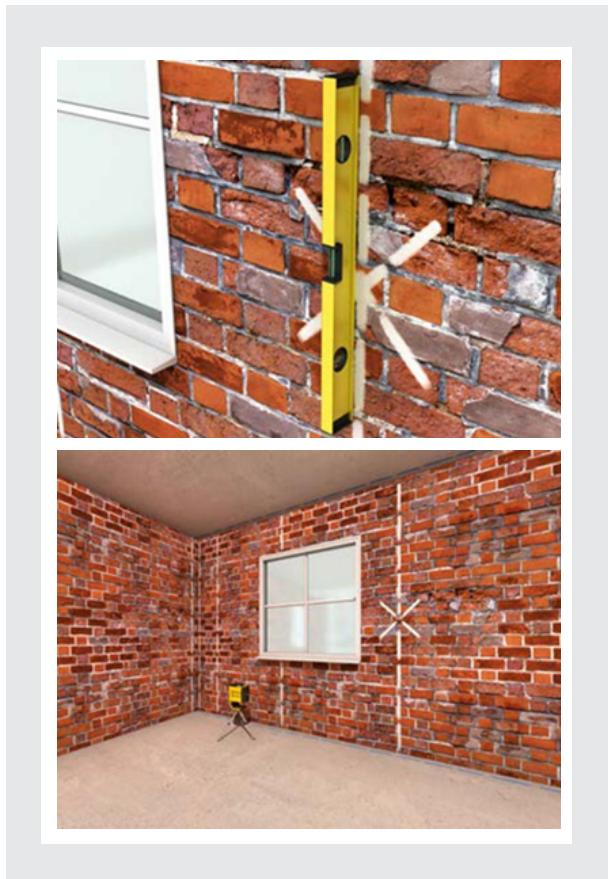

Figure 3
- Hold a long straight edge vertically against the surface (Figure 3) in various places and determine the spot that protrudes most within the entire wall;